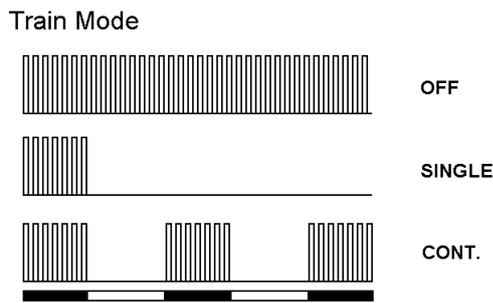

Figure 3.4
- **[Train dur.]** Train duration is entered in seconds. It indicates the length of the pulse train (see black bars below CONT. mode in fig. 3.4)
- **[Train dly.]** Train delay entered in seconds. This determines the interval between pulse trains (see white bars below CONT. Train mode in figure 3.4 above).